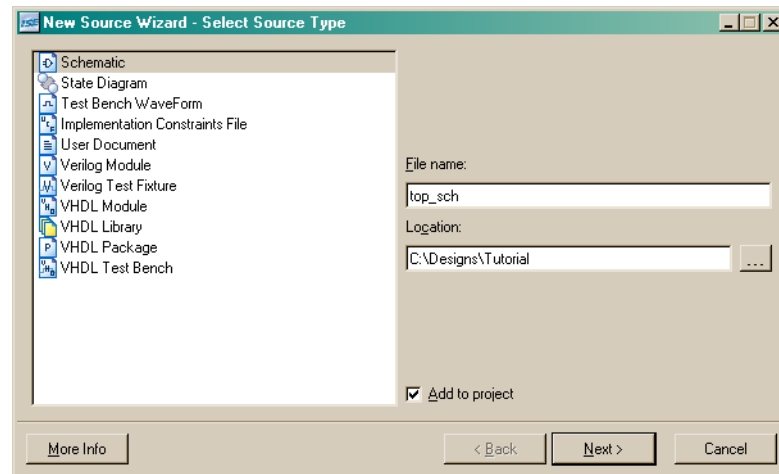

Figure 4-21: New Source Window Showing `top_sch`
2. Now we need to make a schematic sheet. From the **Project** menu, select **New Source** → **Schematic** and give it the name `top_sch` as shown in Figure 4-21.